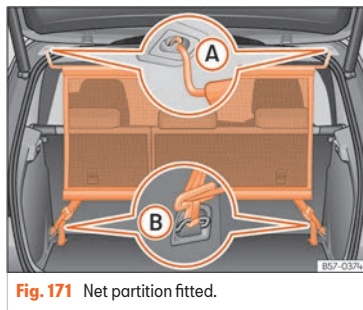

Fig. 171 Net partition fitted.
- Hook the net partition to the left-hand side roof housing >>> Fig. 171 A. Be sure to pull the cross rod down past the upper position.
- Hook in the net partition on the rear right-hand side roof housing by pressing on the bar >>> Fig. 171 A.
- Secure two hooks of the partition net to the fastening rings of the boot >>> Fig. 171 B and tighten the straps firmly.